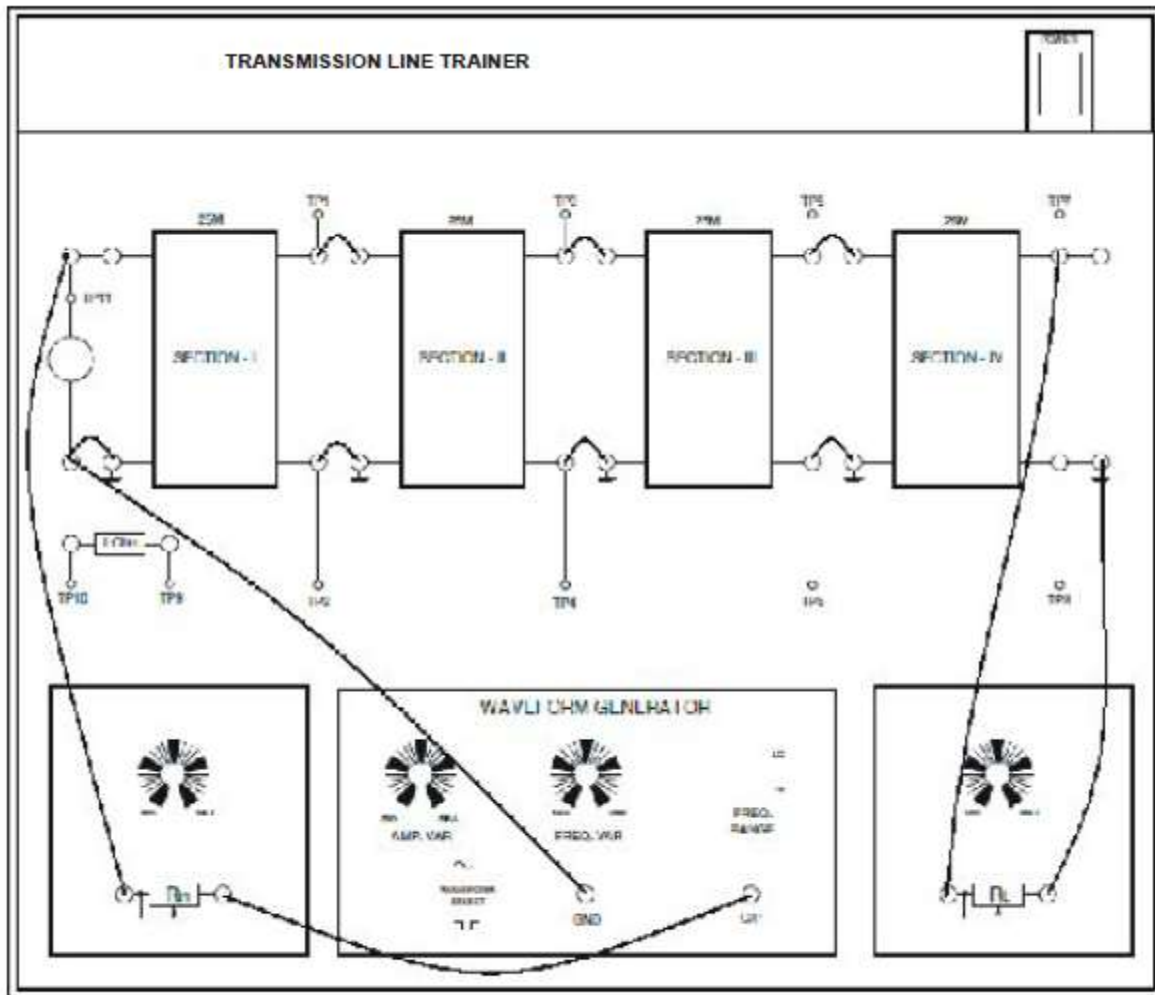

Fig. 9
2. Make connections as shown in Fig. 9.